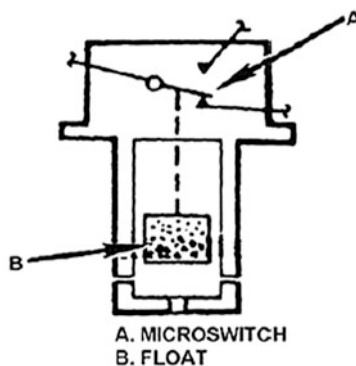

Figure 3-3. Float switch.
A cutaway illustration of a float switch is shown in figure 3-3. These switches are located inside a fuel tank or are attached to the fuel manifold. They are actuated by the fuel level. Upon actuation, the float switches control other electrically operated units. When used in a system designed for automatic pump shutoff when all the fuel is depleted, the float switch will be located at the lowest point in the system and at the same level as the pump. After all of the fuel is removed by the pump, the float switch will then automatically stop the pump. Look at figure 3-3. When the float (B) is raised, a circuit is completed across the microswitch (A). But when depletion of fuel causes the float to drop, the circuit is broken across the microswitch, causing the fuel pump operation to stop.